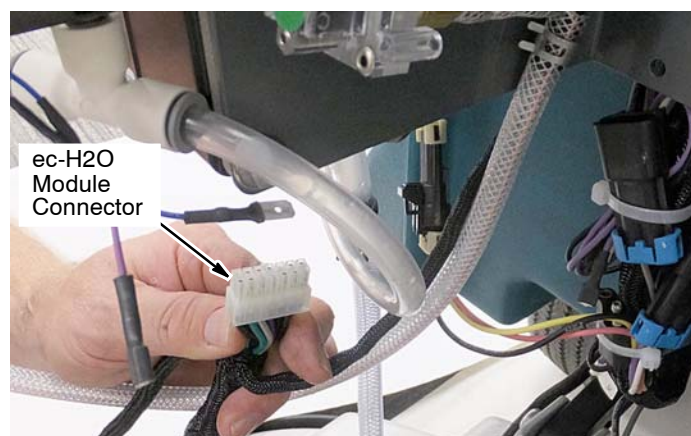

Fig. 27
1. Plug the ec-H2O wire harness into the bottom of the ec-H2O module (Figure 27).